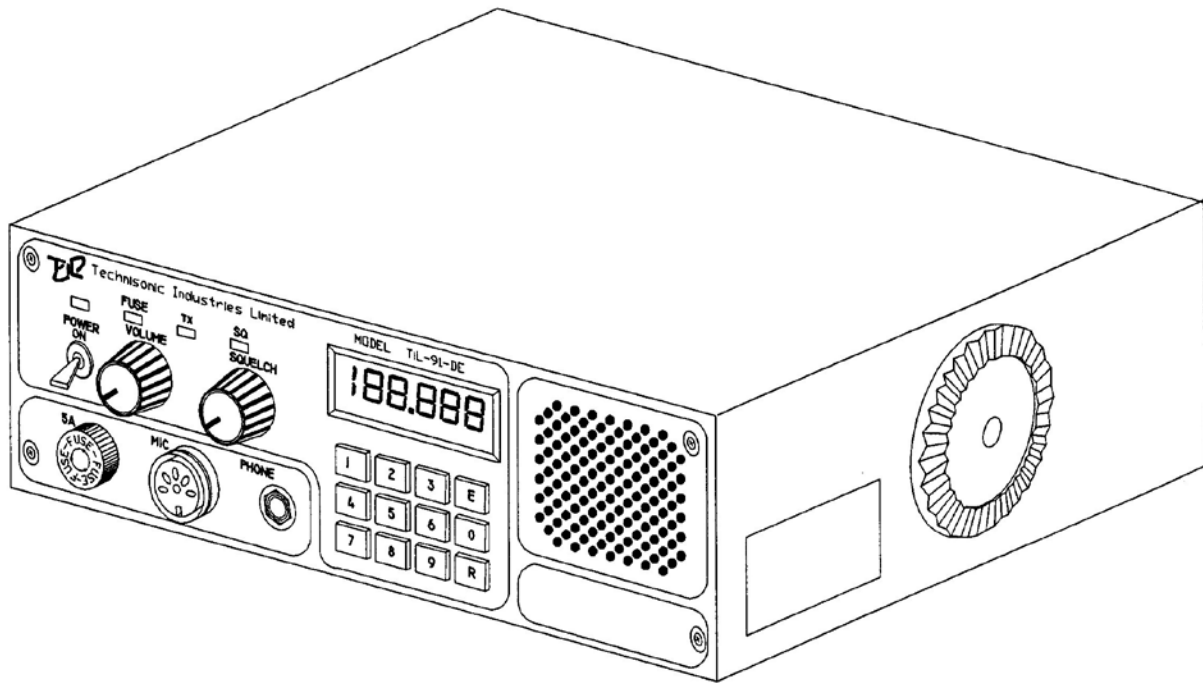

Figure 1: 91-DE Transceiver - General View
- (1) Intended Purpose and Use - The transceiver is intended for installation in airport service vehicles (such as cars, snowplows, and grass cutters) to allow ground control over such vehicles while they are negotiating aircraft manoeuvring areas.
- (2) Brief Description of System Units - VHF/AM Mobile Transceiver System 910200 consists of the following items:
- (a) **Transceiver Model 91-DE** (Part Number 901006-2, Series 1) is a VHF/AM transceiver which operates in simplex and allows quick keypad access and LCD display of the frequency range 117.975 MHz to 138.000 MHz with 25 kHz channel spacing. The transceiver operates from a 12 volts DC nominal vehicle power supply (negative ground only). An optional extra cost DC to DC converter P/N 863118-1 can be installed in the transceiver to allow operation from an input supply from 10.8 to 30.0 V_{DC}. A general view of the transceiver is given in Figure 1. The transceiver is normally located under the dashboard of a vehicle using a mounting bracket and mounting hardware.